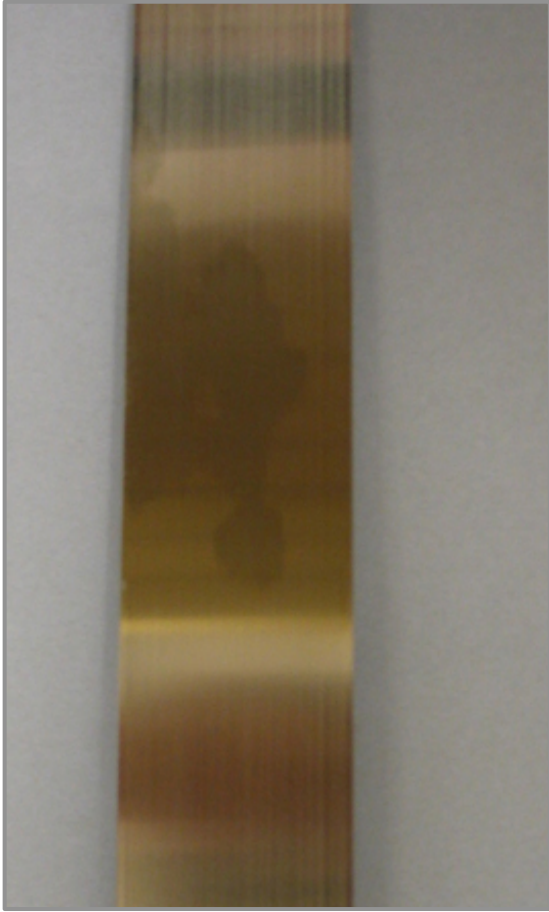

Figure 6. New spring showing absence of any defects visible to naked eye.
- or after the first signs of spring fatigue have been detected during visual inspection (see figures 6 to 9 on the following pages),